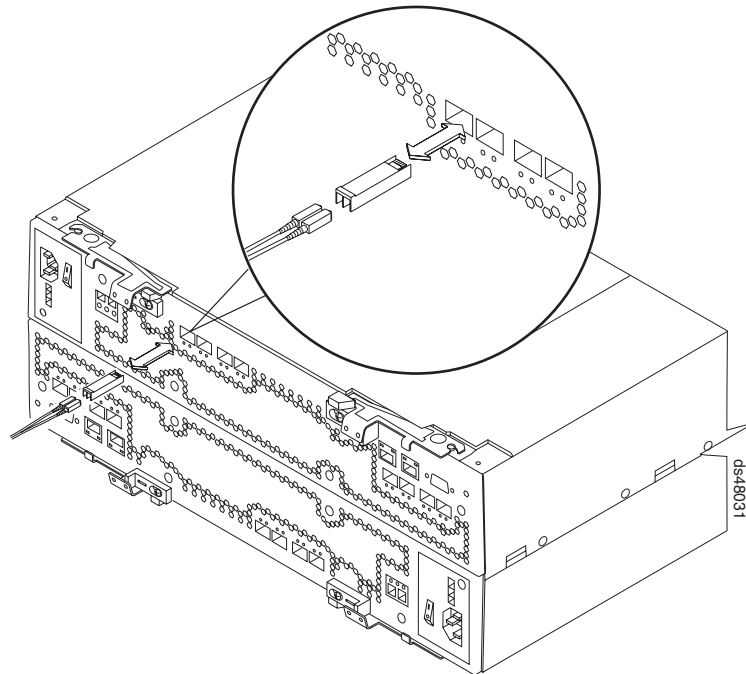

Figure 102. Replacing an SFP module
6. Disconnect the interface cable from the SFP module. (Figure 102 on page 169 shows the SFP module, interface cable, and the rear of a controller.)